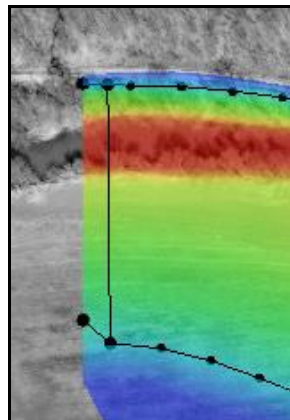

Figure 4 Upstream boundary arc
10. Using the **Create Feature Arc**  tool, create the upstream boundary arc as shown in Figure 4.